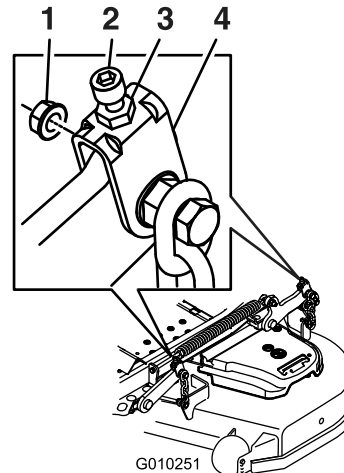

Figure 91
10. If needed, loosen the flanged locknut on the side of the yoke and the jam nut on top. Fine-tune the adjuster screw by turning it to get 7.6 mm (3 inch) height (Figure 91).
16. Fine-tune the adjuster screw by turning it to get 8.3 mm (3-1/4 inches) height (Figure 91).